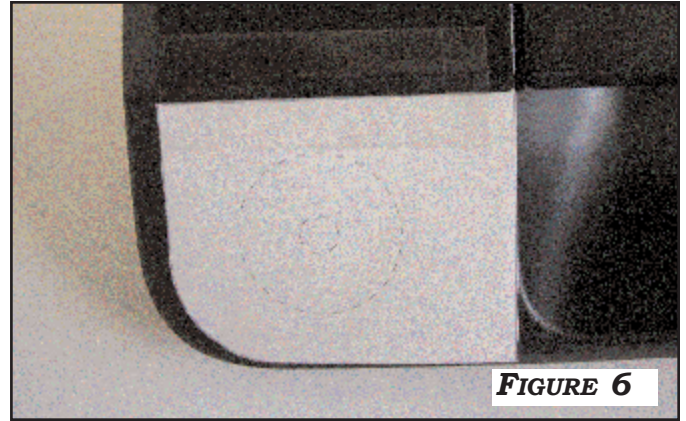

FIGURE 6
1. CUT OUT THE CAMERA HOLE DRILLING TEMPLATE ON PAGE 7 OF THIS MANUAL. AFFIX IT TO THE TAIL GATE LATCH AS SHOWN IN **FIGURE 6**. DRILL A 1/4" PILOT HOLE AND THEN ENLARGE IT TO 1-1/16". CLEAN AND DE-BURR THE HOLE.